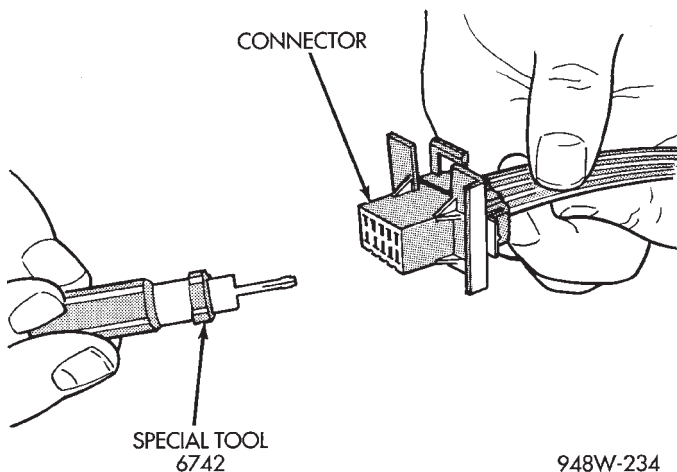

Fig. 13 Molex Connector Repair
- (1) Disconnect battery.
- (2) Disconnect the connector from its mating half/component.
- (3) Insert the terminal releasing special tool 6742 into the terminal end of the connector (Fig. 13).